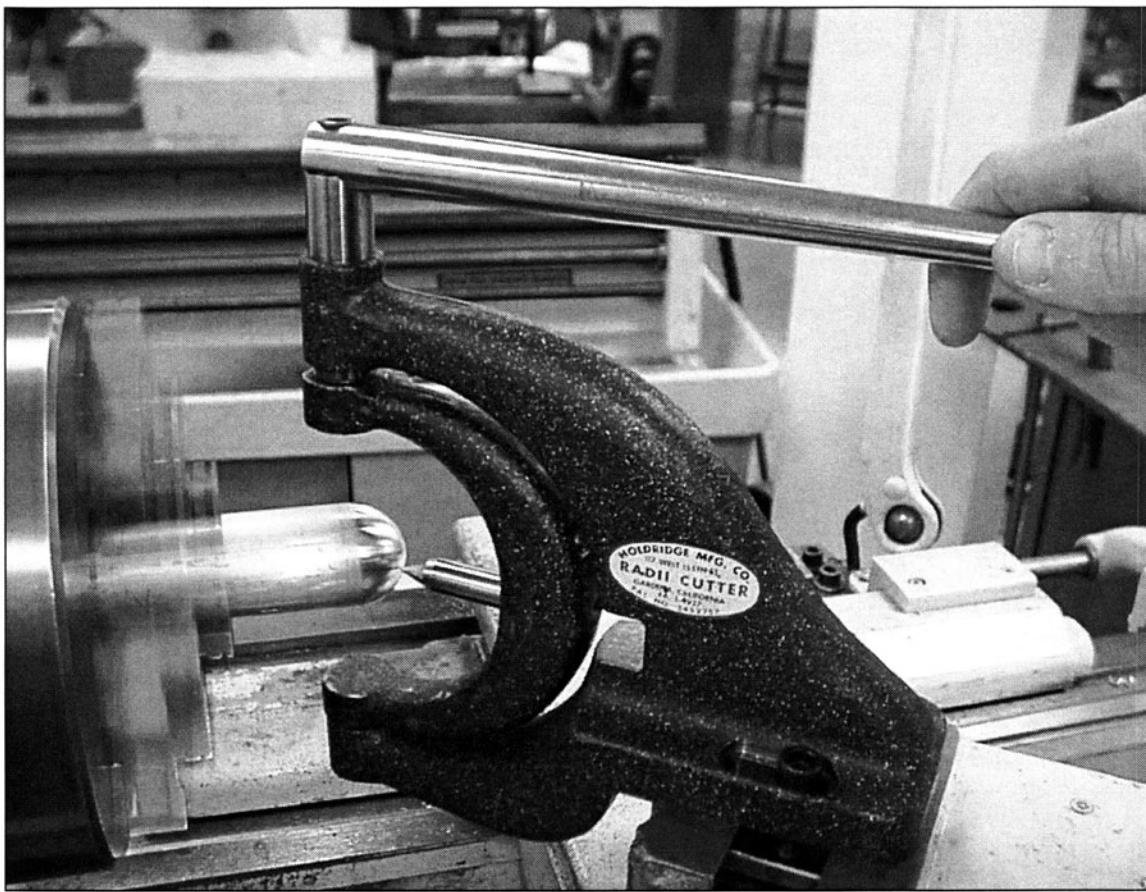

FIGURE 1-15 These tools make cutting spherical shapes a breeze with a conventional lathe. This tool was made by Holdridge Mfg. Co.
39. Cut spherical shapes with a conventional lathe. (See Fig. 1-15)